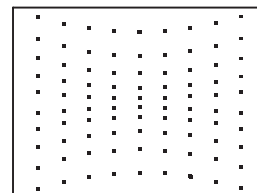

Fig. 2
3. Press [5] key and enter the 5.CONVER OFF. (Fig. 2)